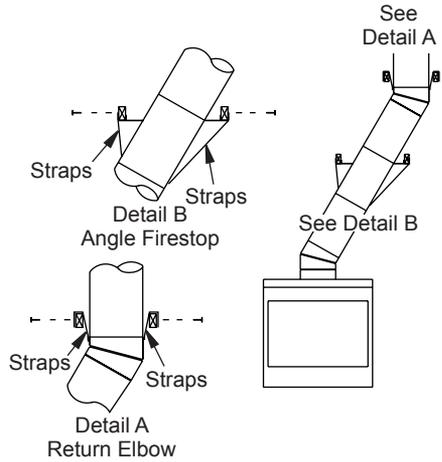

Figure 15 - Ceiling Support Pipe 12S-8DM
- Chimney weight above offset rests on return elbow. Straps must be securely nailed to rafters or joists (see Figure 15, details A and B).